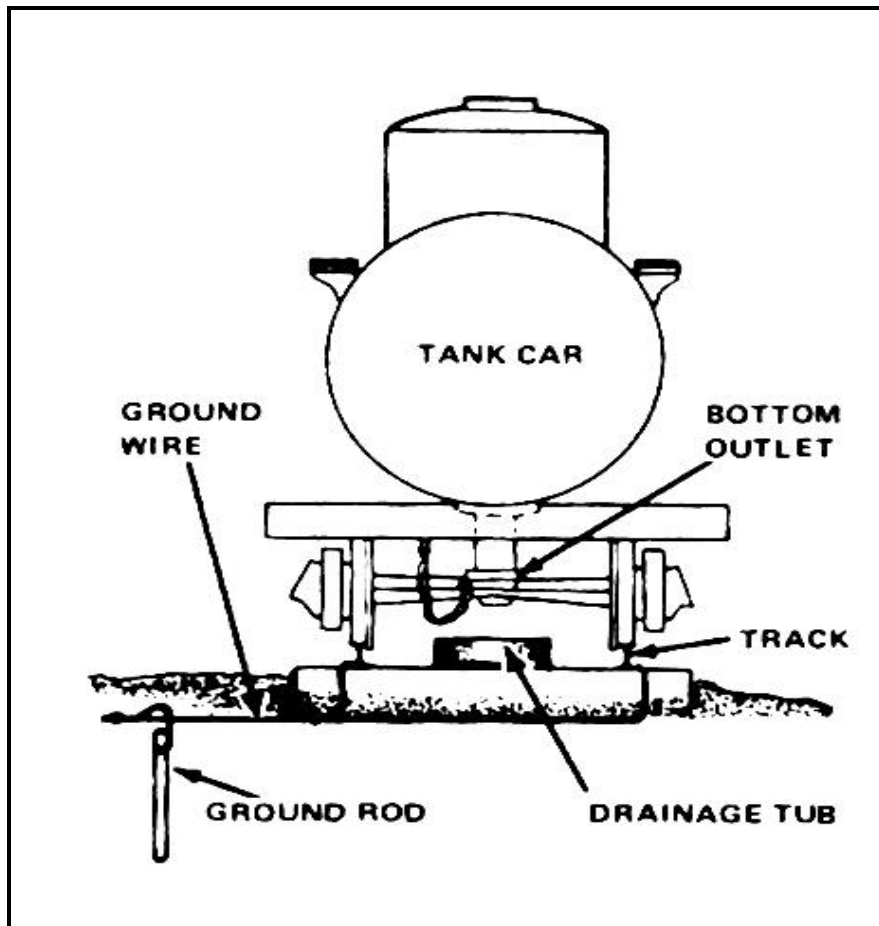

Figure 12-21. Grounding a tank car
- Bond the steam nozzle to the tank shell with a bare copper wire. Check the rails under the tank car for correct bond and ground as shown in Figure 12-21, page 12-29. To ground the tank vehicle--